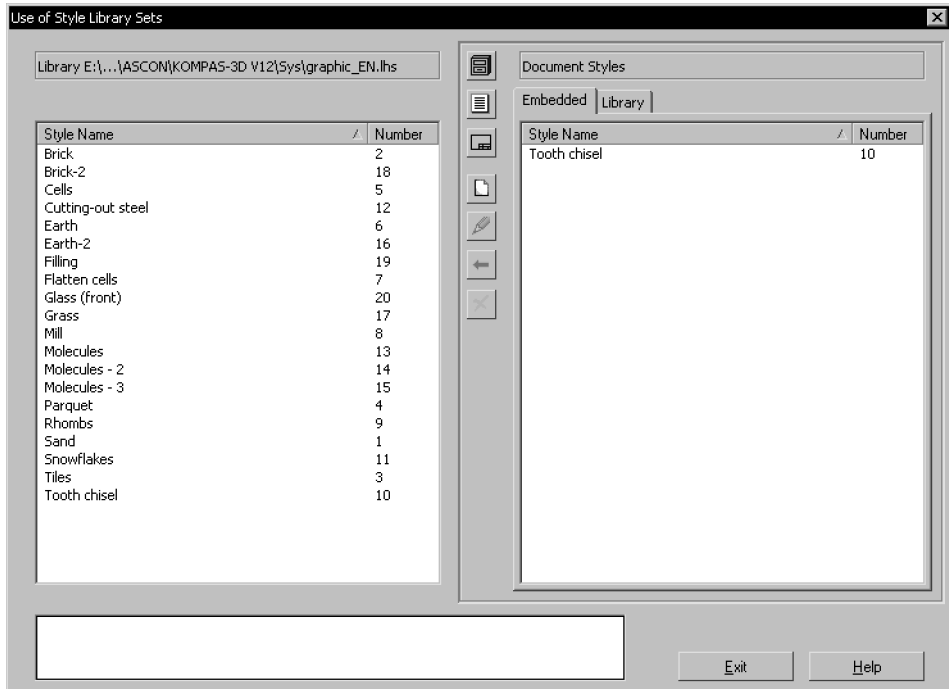

Fig. 6.1. Use of Hatch Style Libraries and Sets dialog
**Libraries — Line Styles...**, **Service — Style Libraries — Hatch Styles...**, and **Service — Style Libraries — Text Styles...** accordingly. For example, on the Fig. 6.1 is shown use of Hatch Style Library Sets dialog.
Preview Window	<p>The window in which a selected style set is displayed. Since two preview windows are available, two different lists of styles can be displayed in a dialog at the same time. Only one window can be active — it is selected by a marquee. For example, in Fig. 6.1, the right window is active. To activate, click the mouse in the window. Styles can be sorted in the lists by names or by IDs. To alter list sorting sequence click the desired column header with the mouse. A triangle mark will be displayed in the header of the column used for sorting styles. Its position shows the sorting direction — ascending or descending.</p> <p>If a list of document styles or a list of set styles is selected for display, the preview window contains two pages.</p> <p>On the Embedded page a list of styles saved directly in a document or in a set is displayed (see Fig. 6.1). On the Library page, a list of styles saved as links to respective library styles is displayed.</p>